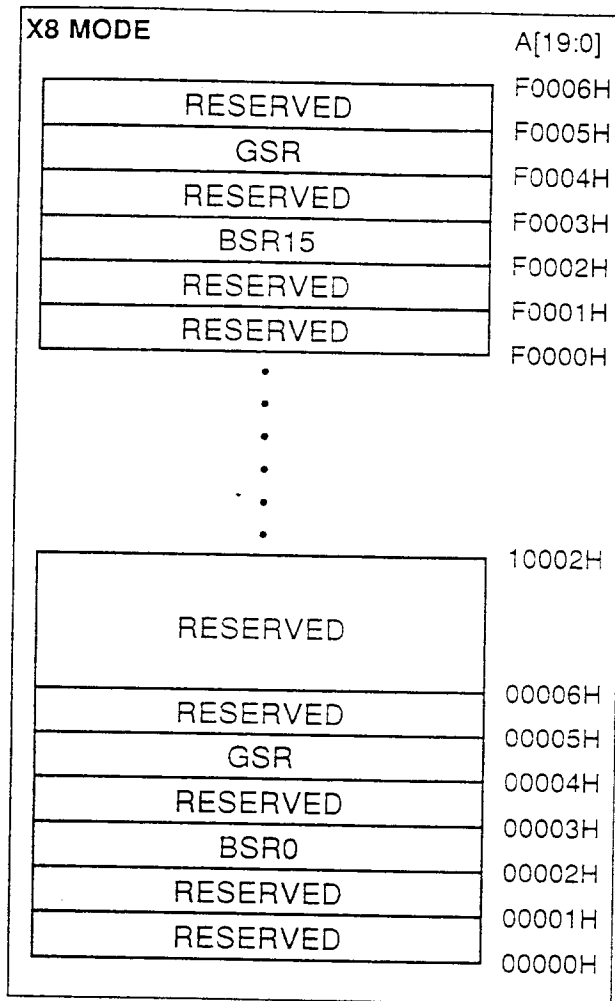

Figure 4.1 Extended Status Register Memory Map (Byte-wide mode)
The GSR and BSR memory maps for Byte-Wide and Word-Wide modes are shown in Figures 4.1 and 4.2.
1. RA can be the GSR address or any BSR address. See Figure 4.1 and 4.2 for Extended Status Register Memory Maps.